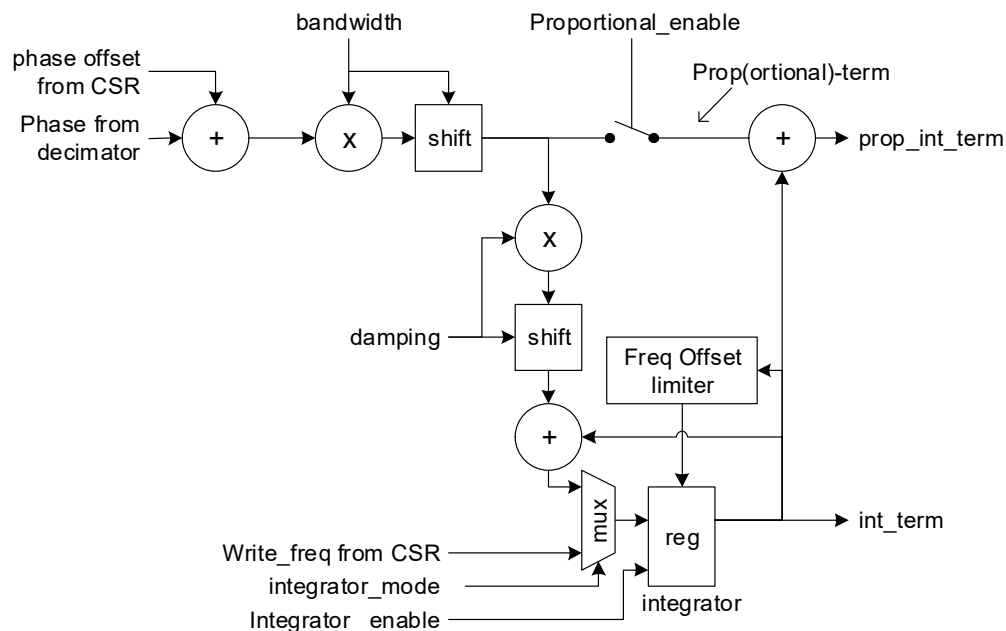

Figure 13. Loop Filter Block Diagram
The digital loop filter is a Proportional - Integrator (PI) type filter as shown in Figure 13. It is programmable to a bandwidth of approximately 10Hz to 12kHz.